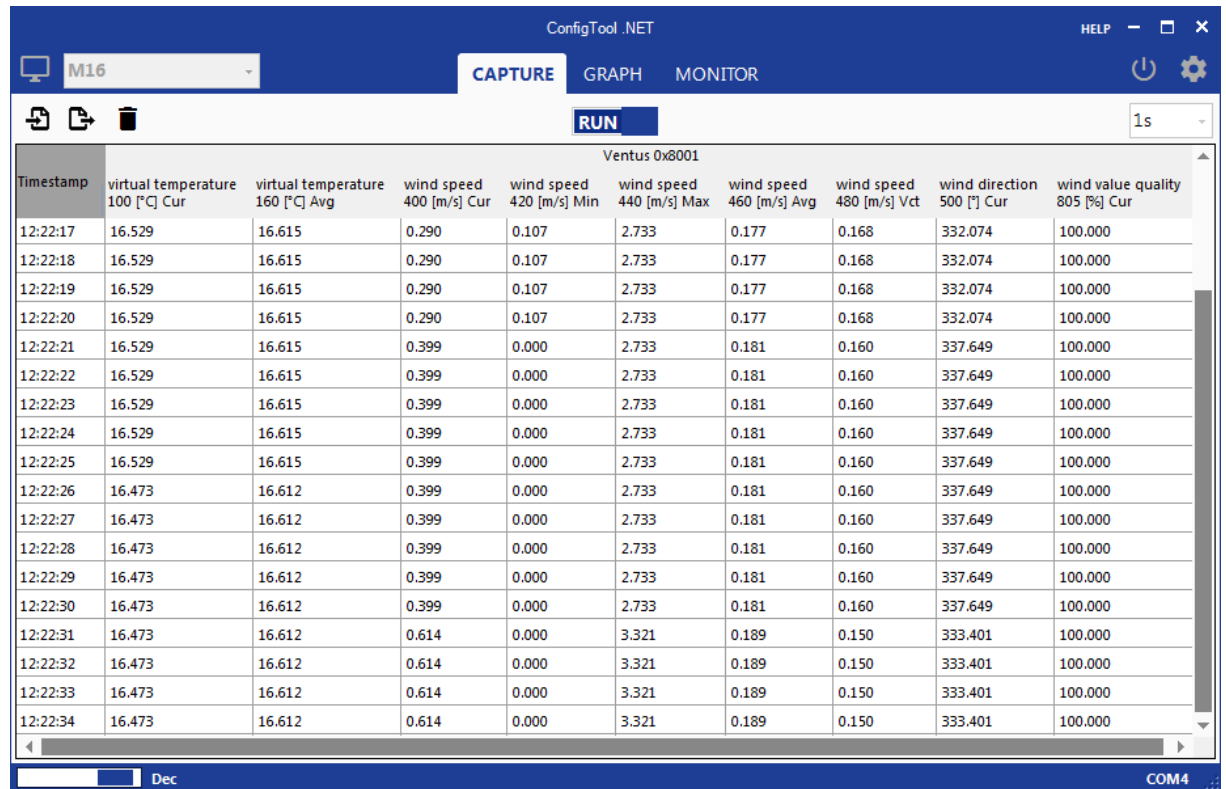

Figure 18: Data query
- Start the data query, see Figure 18